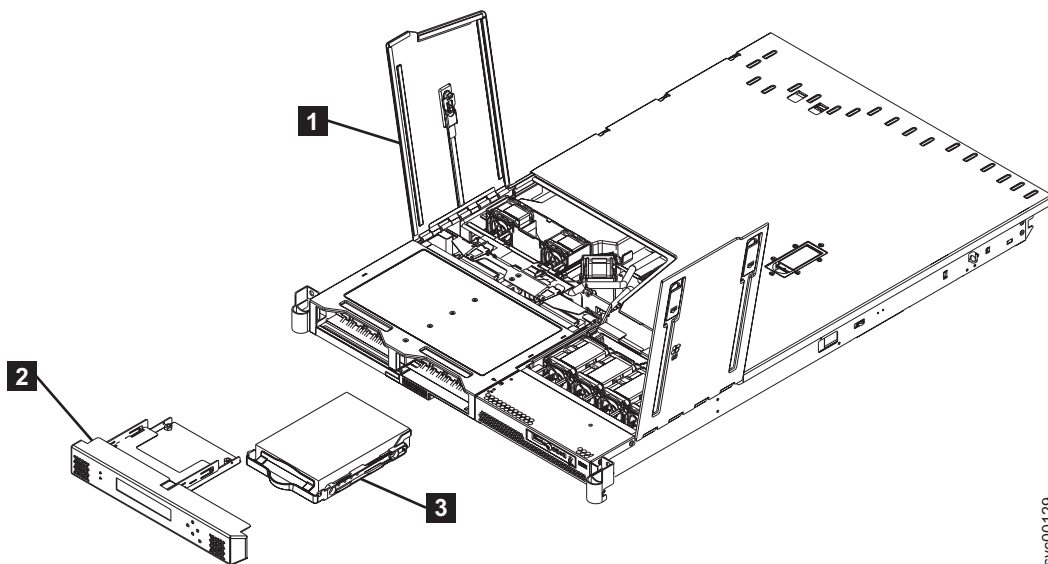

Figure 98. Removing the SATA disk drive
5. Open fan door A (**1** in Figure 98).